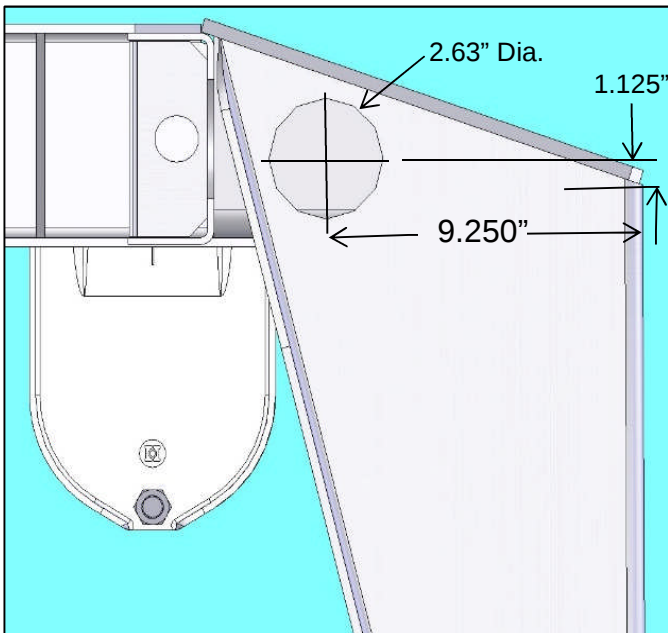

Figure 11
Step 10: Measure and mark center of 2.63”-dia. hole on Inboard Side of the Counterbalance Leg (Fig 11)